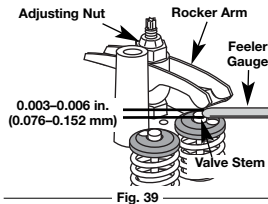

Fig. 39
- Turn the adjusting nut using a 5/16 inch (8 mm) wrench or nut driver (Fig. 39).